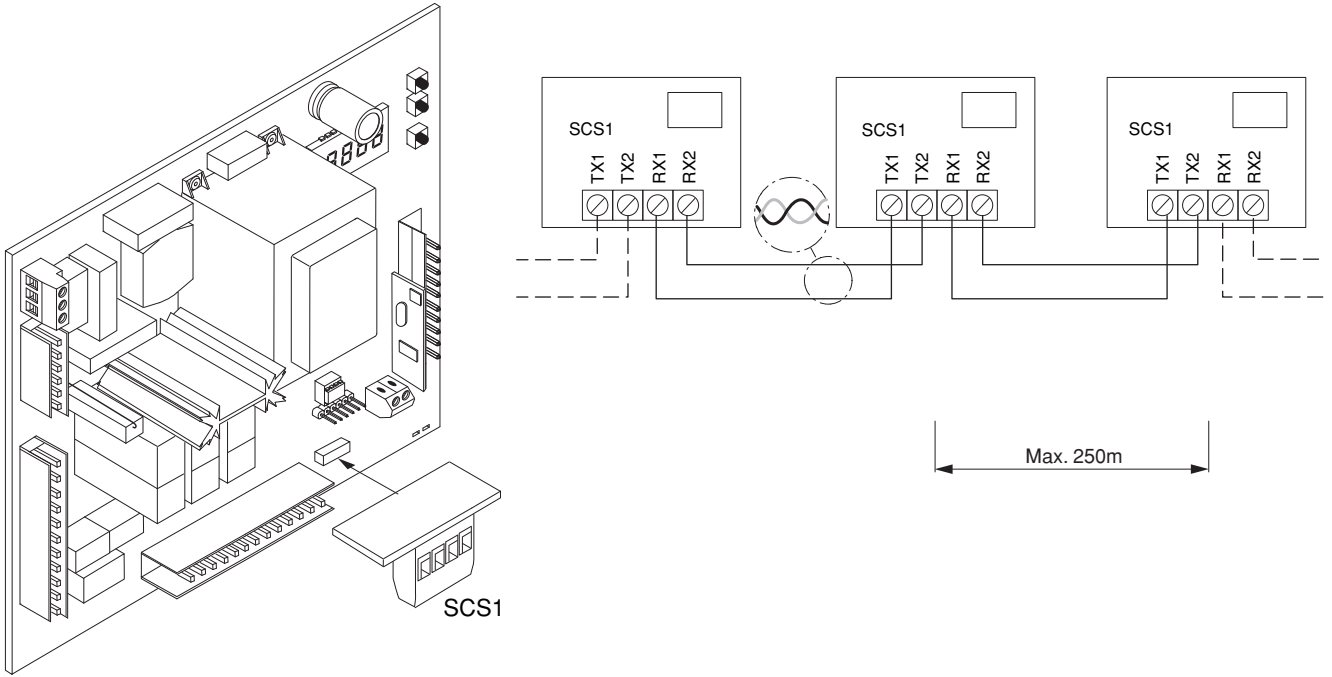

Fig. 6
8.1) Opposite barriers/gates (Fig.6)